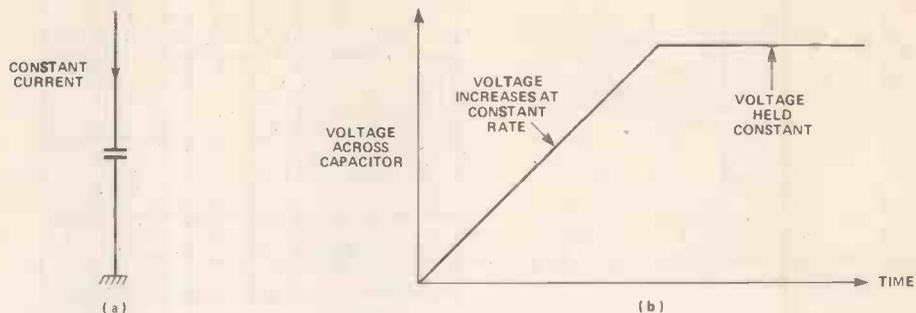

Figure 12. a) A constant current used to charge a capacitor b) Capacitor voltage when a constant current is applied then removed.
So overall we have produced an effect similar to that in Figure 12. The process of gradually increasing a capacitor voltage is known as charging a capacitor and the circuit consisting of a resistor and a capacitor is known as a *resistor-capacitor (RC) circuit*. The curve of the capacitor voltage which such a circuit